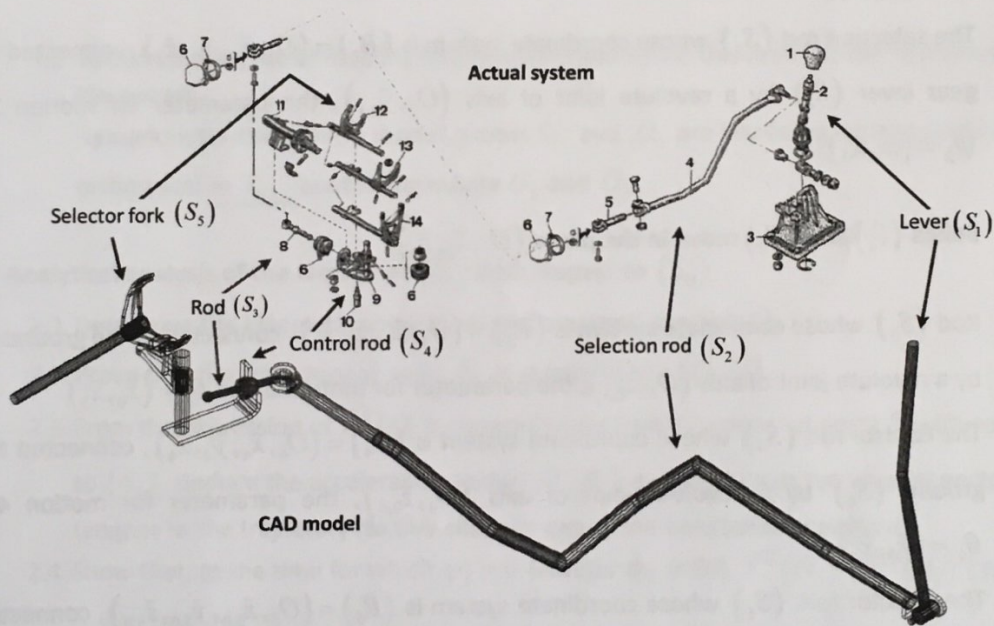

Figure 1 – Actual system and CAD model
In automotive manual transmissions, the driver changes speed by moving a gear lever which operates the gearbox shift control system (Figure 1) which will be analysed from a kinematic viewpoint in this problem.
The gearbox manual shift control system shown in Figure 1 is that used in Renault Clio 2. The technical drawing represents the main components of the system, i.e.
- A selector fork ( $S_5$ ) which moves a pinion (not shown) corresponding to the desired speed ratio. There are as many forks as pairs of speed ratios (the CAD model in Figure 1 shows that associated with the 1st/2nd gear transition only).